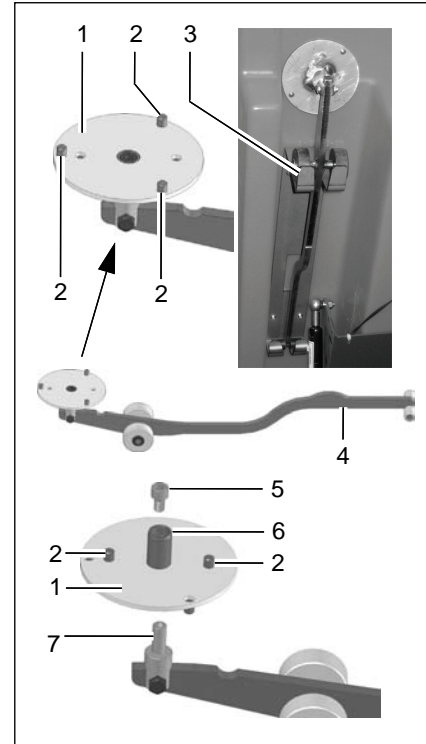

Fig. 6
To simplify assembly and disassembly of the middle brush or pad in particular, an assembly tool (Fig. 6/4) is provided which is kept in a corresponding holder (Fig. 6/3) under the seat console which can be opened out.
Both sides of the plate (Fig. 6/1) of the assembly tool (Fig. 6/4) can be used:
- To assemble brushes, the flat side of the plate (Fig. 6/1) (without centering device (Fig. 6/6)) must point upwards.
- To assemble pads, the side of the plate (Fig. 6/1) with the centering device (Fig. 6/6) must point upwards.
There are pins (Fig. 6/2) on both sides of the plate (Fig. 6/1) which serve to center the brush or pad on the assembly tool.
1. Remove the screw (Fig. 6/5).
2. Remove the plate (Fig. 6/1) from the dowel (Fig. 6/7).
3. Turn the plate (Fig. 6/1) over.
4. Fit the plate (Fig. 6/1) upside down on the dowel (Fig. 6/7).
5. Insert and tighten the screw (Fig. 6/5).
The assembly tool (Fig. 6/4) can be used to assemble and disassemble all the brushes or pads.
5. Force the broad end of the assembly tool with the plate (Fig. 6/1) downwards. As a result of the levering effect, the brush or pad (Fig. 9/3) is released from the brush head.